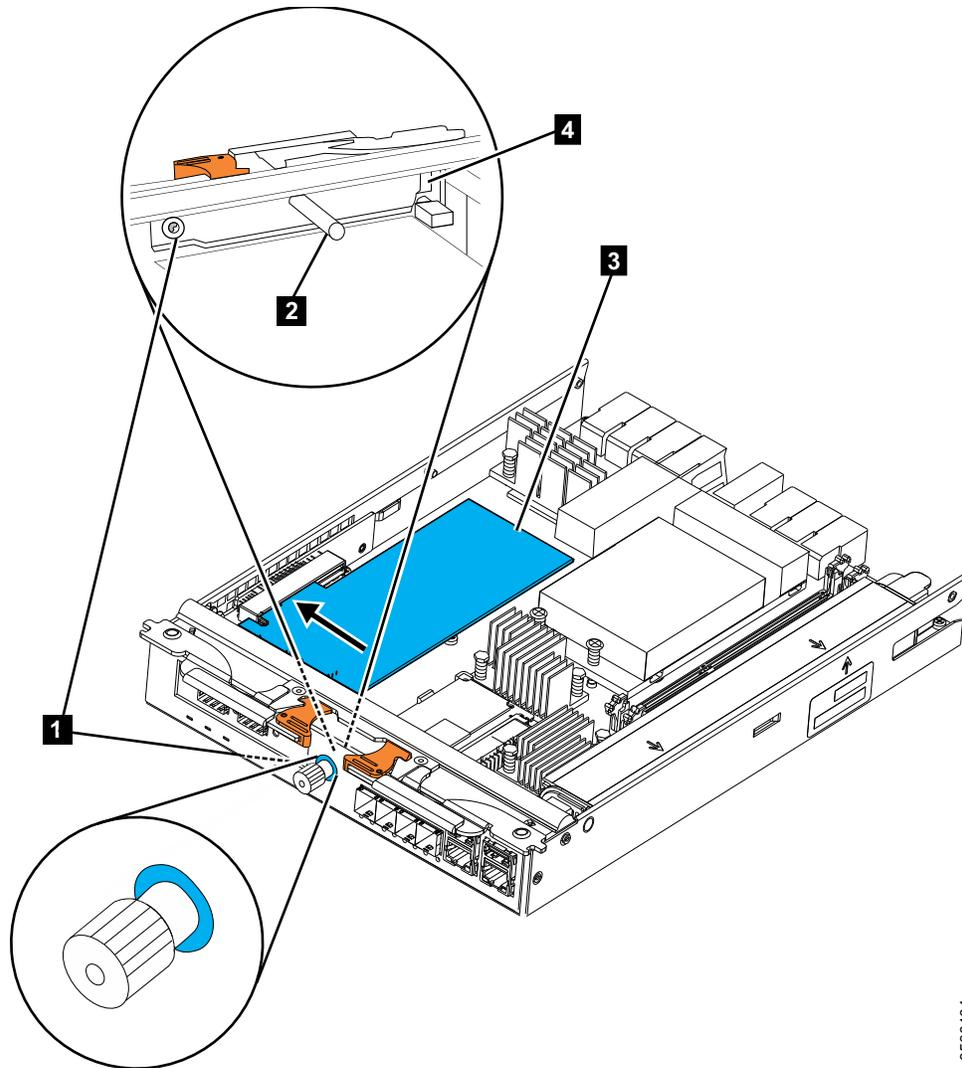

Figure 21. Installing SAS 4-port host interface adapter
1. Loosen the retaining thumbscrew **1** as shown in Figure 21.
4. Insert the host interface adapter **3** into the canister as shown in Figure 21 on page 34.